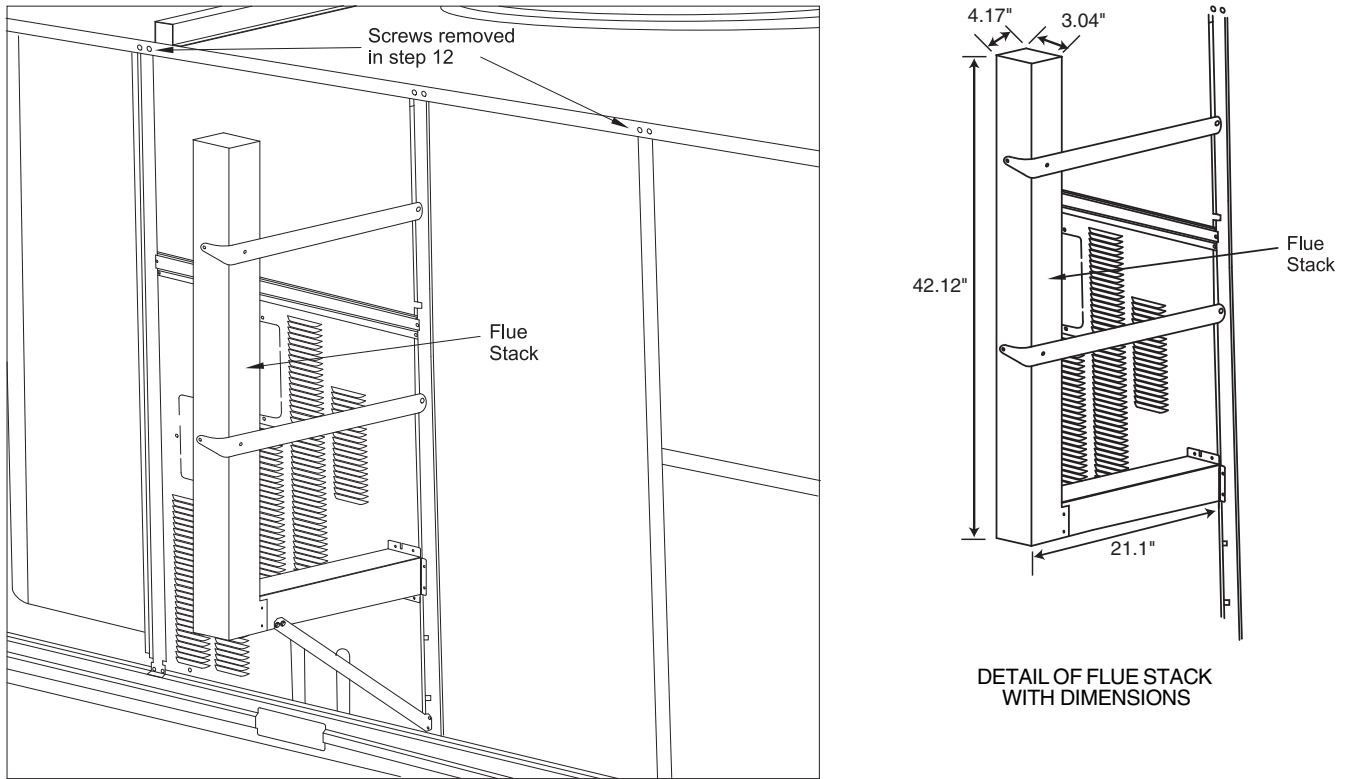

Fig. 3 — Flue Stack Attached
10. Position flue stack over flue extension and medium support brackets. Secure flue stack to medium support brackets and flue extension with 4 sheet metal screws provided. (See Fig. 3.)
11. Secure bottom of flue stack to flue extension with 8 sheet metal screws provided. (See Fig. 3.)
12. Remove 4 screws securing 2 posts to top cover. Save screws. (See Fig. 3.)